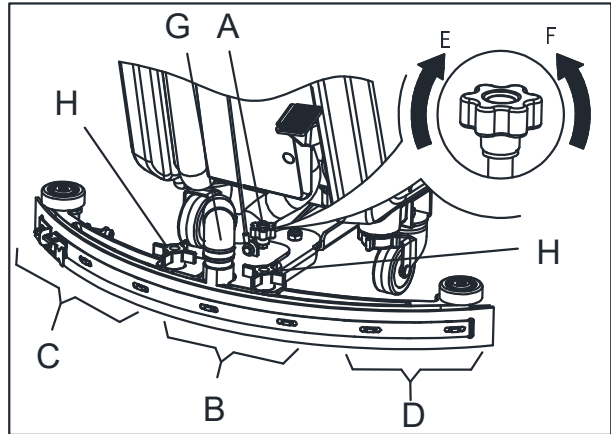

Figure 6
1. Install the squeegee and screw up the nut (H), then connect the vacuum hose (G) to the squeegee.
2. Adjust the squeegee by squeegee adjusting handle (A, Figure6).
- a) If there is gap between the ground and middle section of rear squeegee blade (B), adjust the knob (A) in counterclockwise direction (F) until all section of rear squeegee blade good contact with ground, the front blade touch the ground slightly.
- b) If there is gap between the ground and both end section of rear blade (C and D), adjust the knob (A) in clockwise direction (E) until all section of rear blade good contact with the ground, the front blade touch the ground slightly.